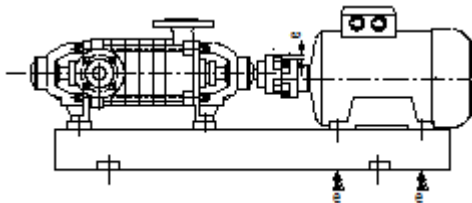
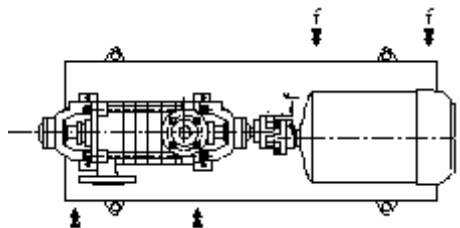

Figure 11: Parallel Axis Misalignment in Vertical Plane and Its Correction (OMK)
Figure 13: Parallel Axis Misalignment in Horizontal Plane and Its Correction (OMK)
1.Paralel Axis Misalignment (Figure 11 – Figure 13)